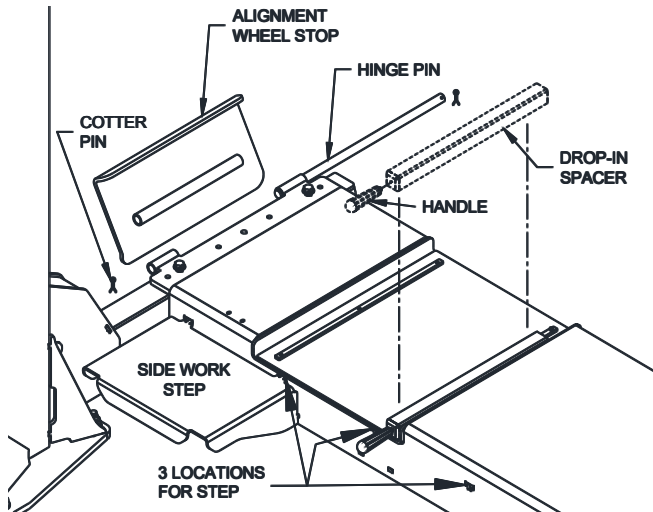

Fig 21 – Alignment Wheel Stop & Turn Plate Installation
- 62) Attach a Work Step to each runway. (The Work Step may be located in three different positions on each runway.) See **Fig 21**.
- 63) Use the hinge pin and cotter pins to install the alignment wheel stop. See **Fig 21**.